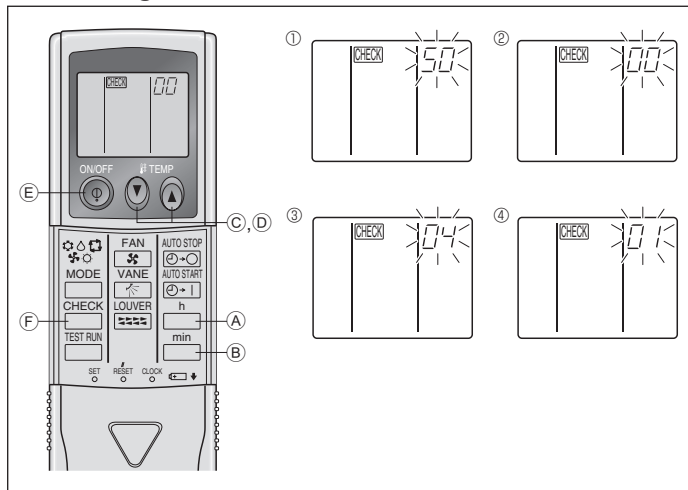

Fig. 6-14
2) For IR wireless remote controller (Fig. 6-14)